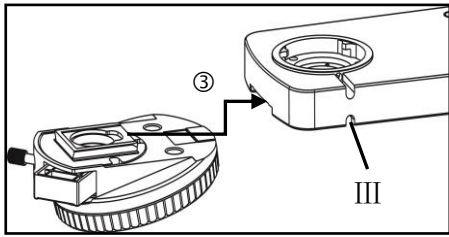

Fig 5
4-2-3 Install Nosepiece (fig 5)
Connect the plug of nosepiece with socket, then inset the dovetail groove of microscope according to the path ③ shown in figure 5. At last, use hex wrench tight up the bolt shown as III.